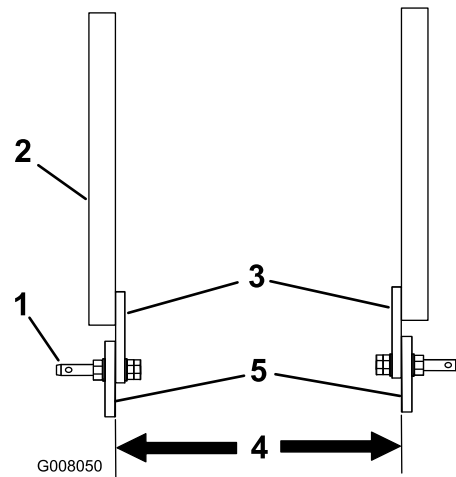

Figure 2
- If the distance between the lower mounting tabs on the aerator is between 20.75 and 22.62 inches (ProCore 660 & 880 aerators), position the link pins in the support arms with the mounting tabs inside, as shown in Figure 2.